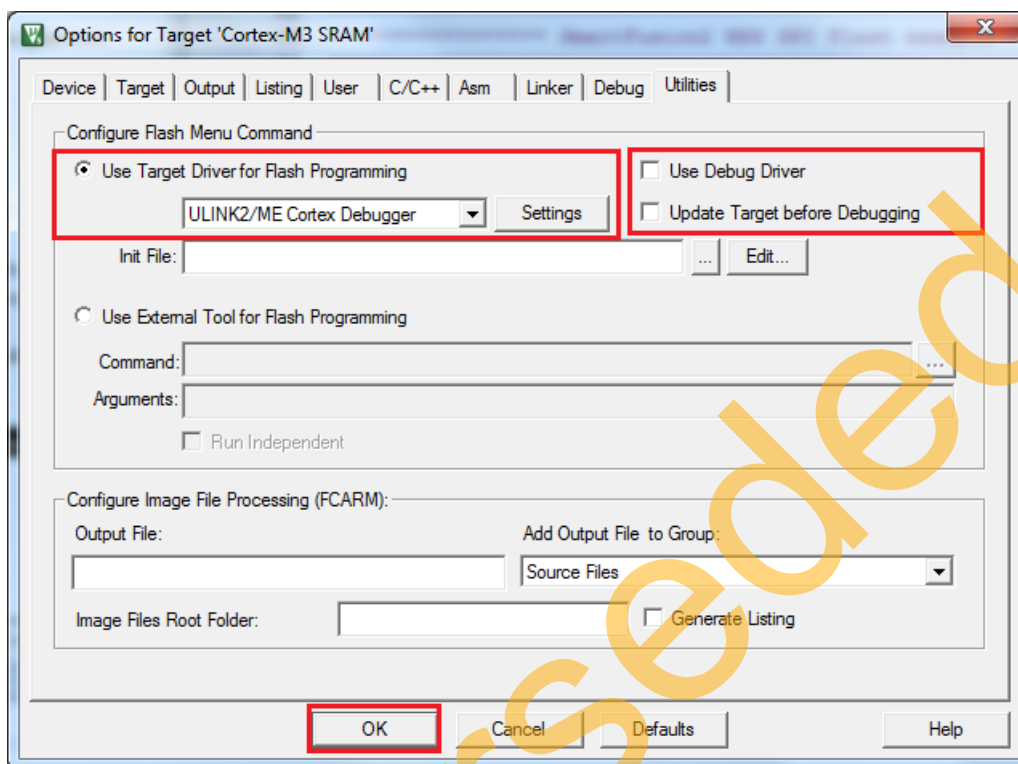

Figure 32 • Target Options - Utilities Settings
15. Select **ULINK2/ME Cortex Debugger** from the drop-down list and click **OK** as shown in Figure 32.